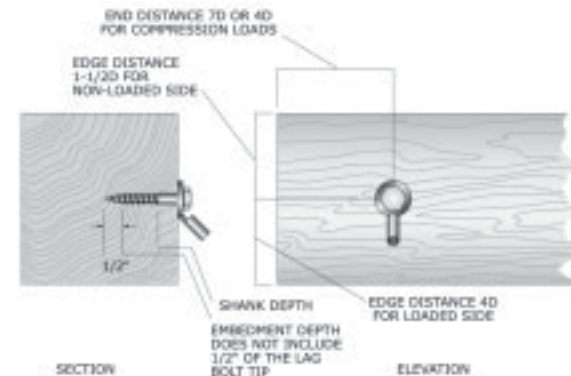

Figure 116: Spacing requirements for wood lag bolts.
Lag bolts are used to attach equipment or steel shapes to wood structures. The size and location of the anchors can be determined from approved construction documents (see Figure 116, below).
**Figure 116 is allowed for cable attachments. If a strut is attached to wood, both edge distances are considered loaded and require 4 times the bolt diameter.**
Drill a hole with a drill bit the same size as the shank of the bolt. The depth of the hole is the same as the length of the unthreaded shank that will extend into the wood (see Figure 116, page 115).